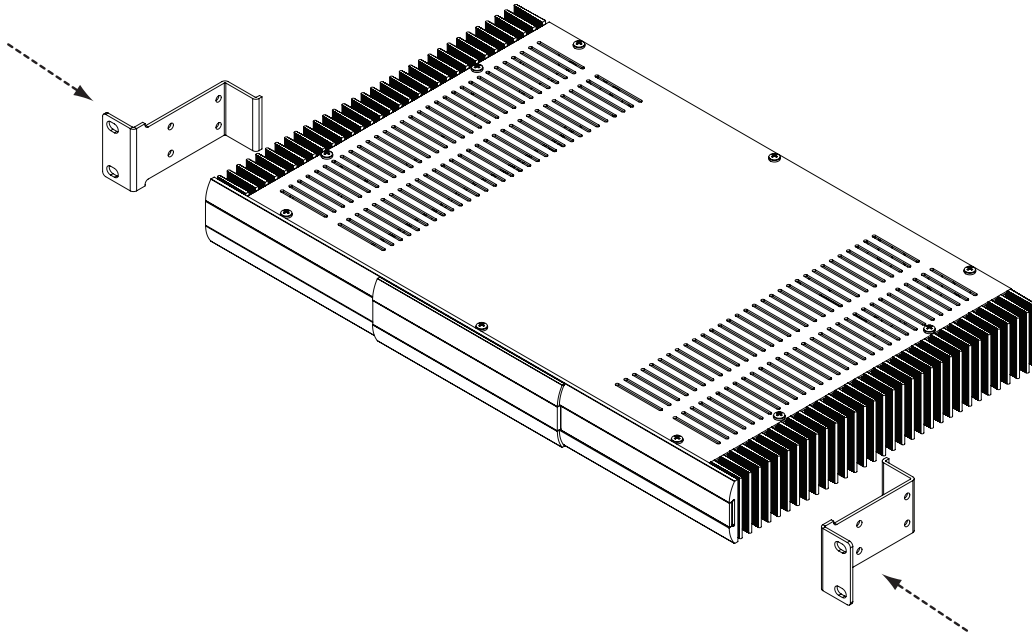

Figure B-1
1. Slide the rack mount kit onto the A2 chassis from the front as shown in *Figure B-1*.